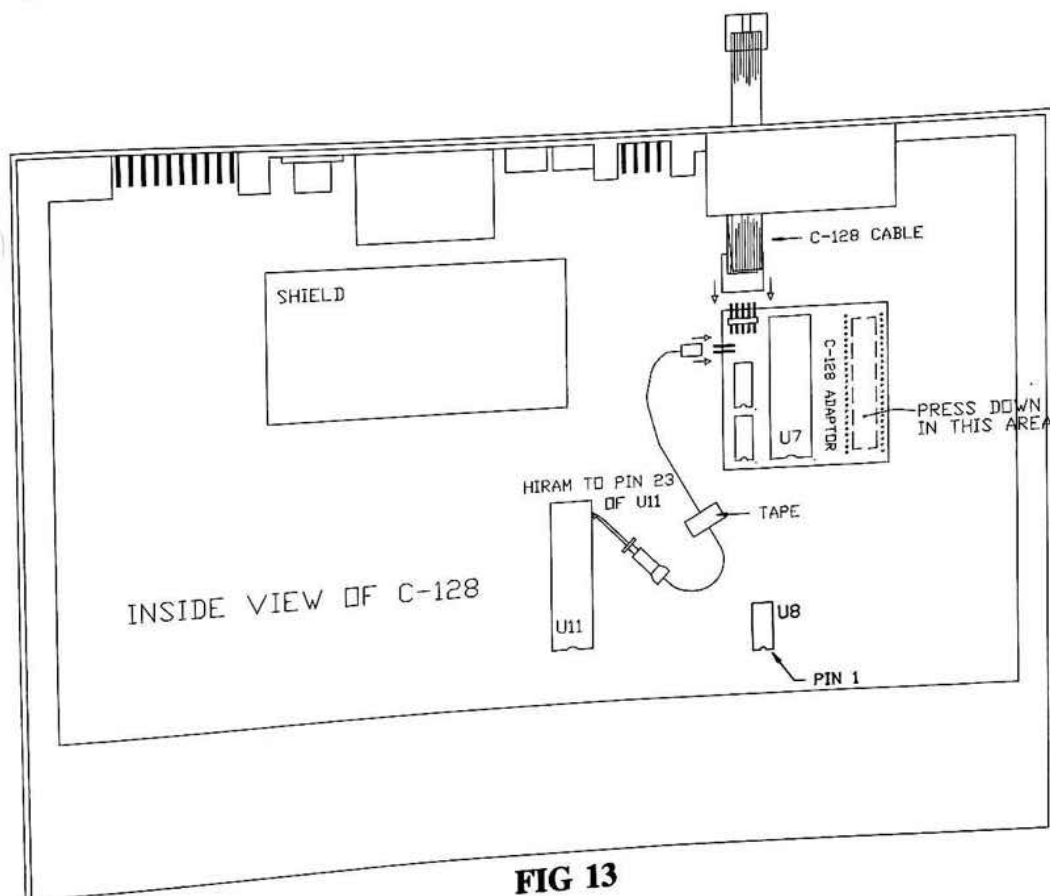
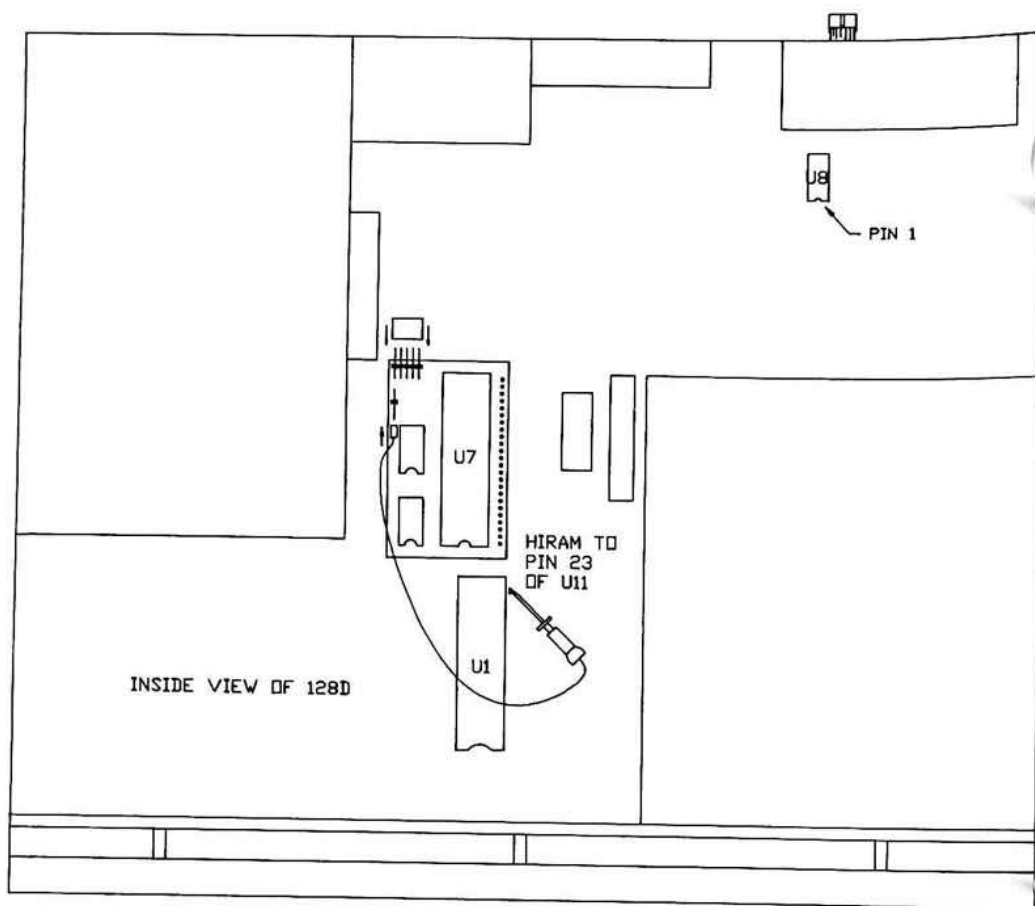
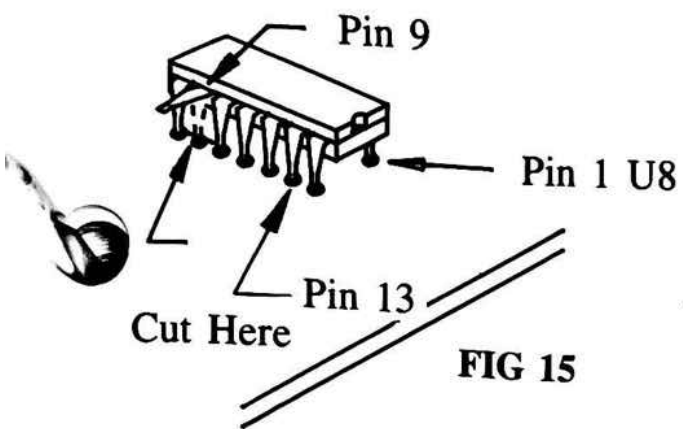

FIG 13
FIG 14
FIG 15
Step 3 - Locate chip U8 on the circuit board. Refer to FIG 13 for the C-128 computer and FIG 14 for the 128D computer. For the C-128, cut pin 9 of U8 and for the 128D, cut pin 13 of U8 as close as possible to the circuit board and CAREFULLY bend the pin upward so that it is parallel to the circuit board. Refer to FIG 15.